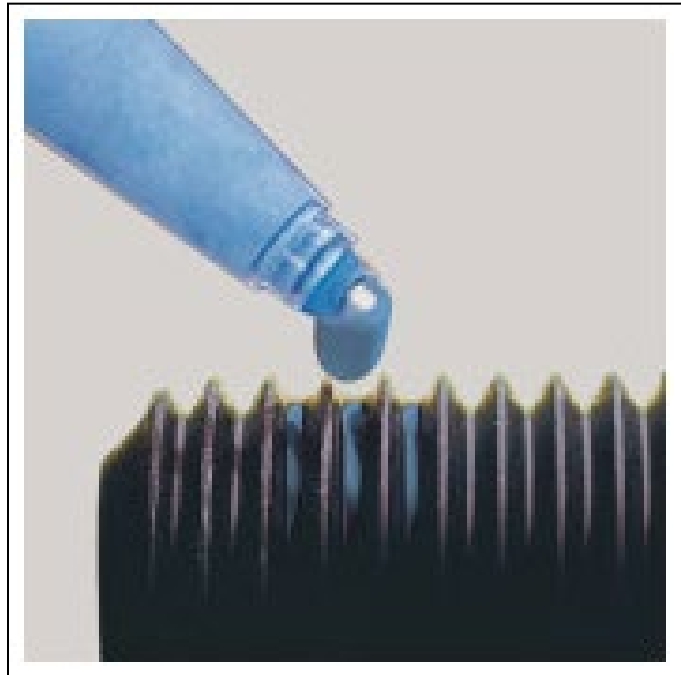
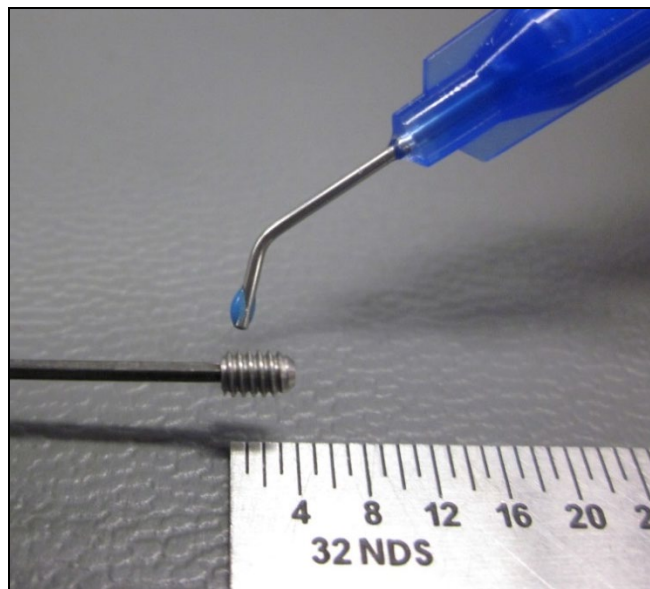

Figure 1: Proper Application Method
Figure 2: Tip does not touch metal surface
- 3.4 To prevent the product from clogging in the nozzle, do not allow the tip to touch metal surfaces during application. (See Figure 1 & Figure 2)
- 3.5 For through holes, apply the product onto the bolt at the nut engagement area. Apply enough to fill one to two threads 75-100% full. (See Figure 1 & Figure 3)